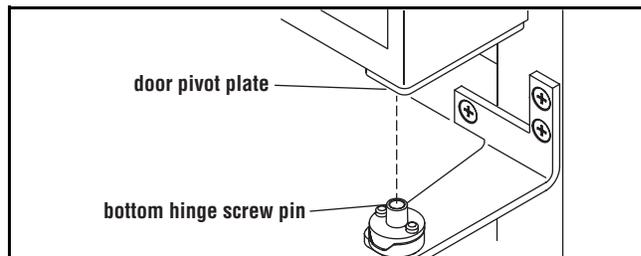

Figure 12
8. Holding door upright with top of door tilted forward, place hole of door pivot plate on bottom hinge screw pin (**Figure 12**).